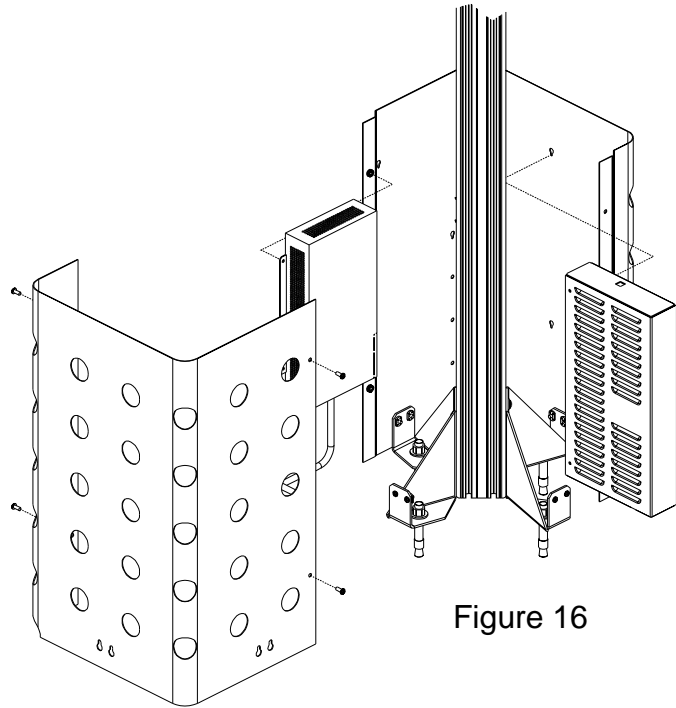

Figure 16
2. Connect front and rear shields to each other with two 10-32x3/8 philips head screws on each edge. Tighten all shield screws. Refer to Figure 16 for detail.
3. Locate the power supply and interface box assemblies. Attach the power supply to left side of the left rear Base shield using three 6-32 x 3/8 screws and nuts. Refer to Figure 16 for detail.
4. Attach the IVS interface box to the right side of the left rear base shield using four 6-32 x 3/8 socket head cap screws. Plug motor drive cable into the IVS interface box, tighten (2) strain relief screws. Figure 16.